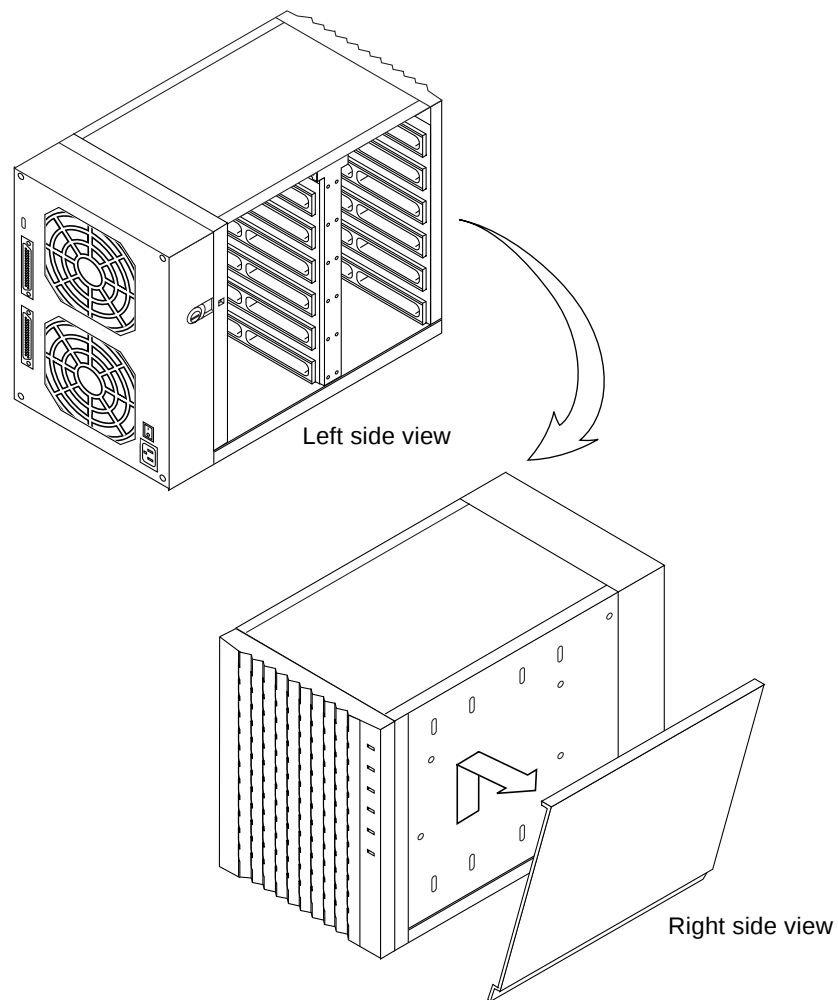

FIGURE 5-8 Removing the Right Panel
- 7. Use your other hand to help slip off the right panel as you feel it coming loose from the chassis (FIGURE 5-8).**
1. Align the hooks of the right side panel with the holes and tabs of the enclosure (FIGURE 5-8).